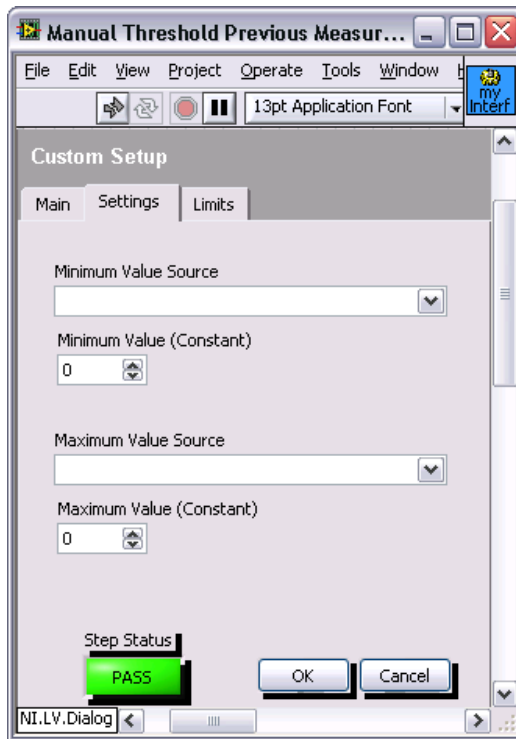

Figure 5-3. Adding Previous Measurements Controls
4. Complete the following steps to build the front panel shown in Figure 5-3: